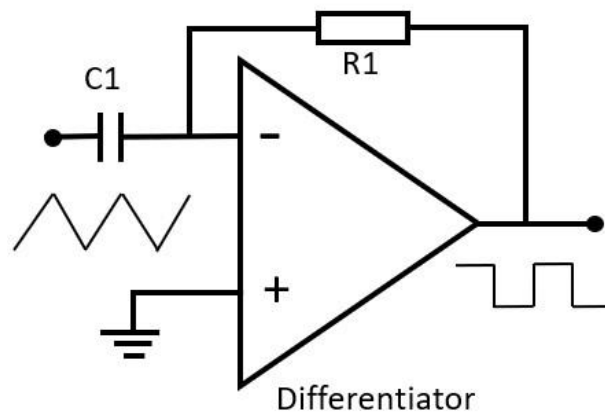

Figure 8: Differentiator.
7. The Differentiator is designed so the output of the circuit is proportional to the rate of change to the input. The rate of change is governed by  $C_1$  and  $R_1$  (Figure 8).